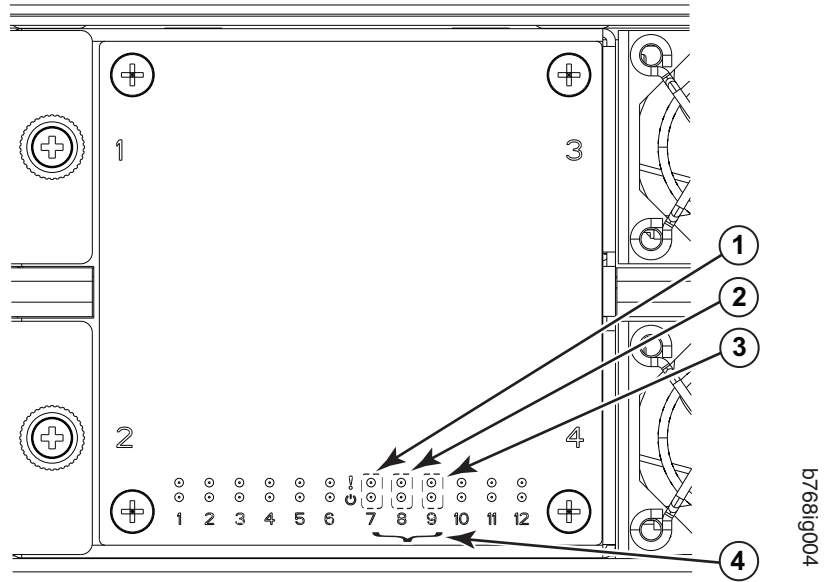

Figure 26. LEDs on the WWN card and bezel
2. Check the LED indicators on the WWN bezel and verify that they reflect the actual status of the components. The WWN bezel covers the WWN cards and allows its LEDs to shine through (see Figure 26 on page 77). The LEDs on the WWN bezel provide a consolidated view of the port, CP, and CR blade status (see Table 12).